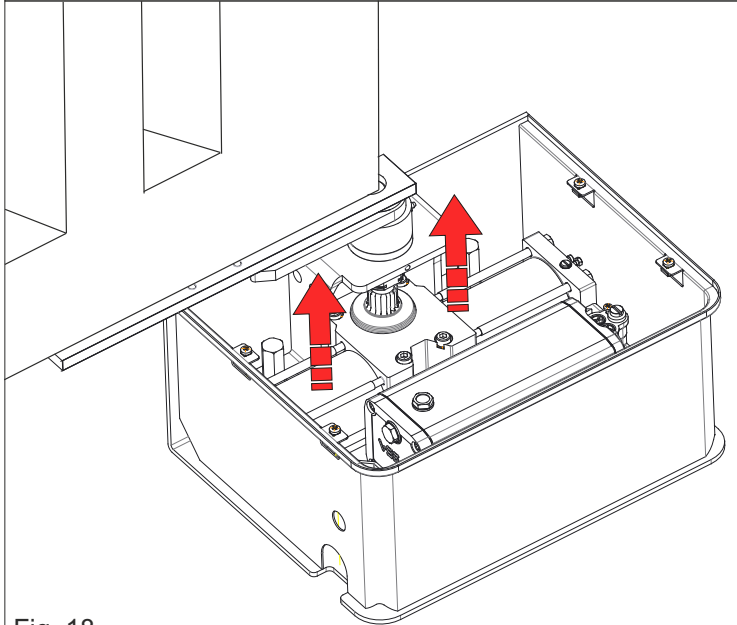

Fig. 18
5.3. Lift the operator and insert its shaft inside the box shaft (Fig. 18)